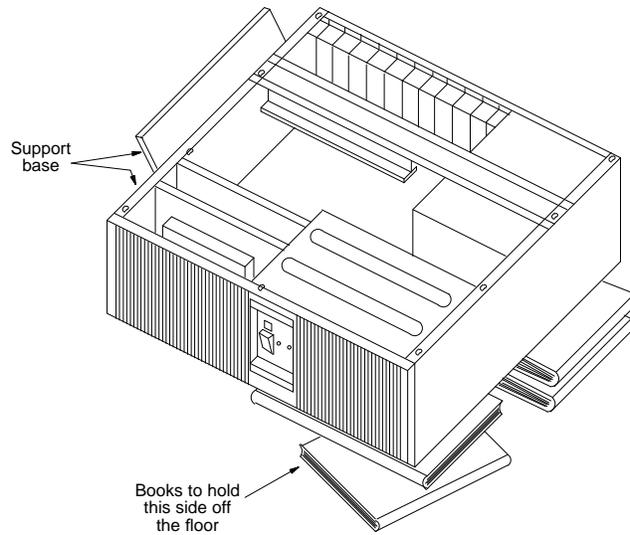

Figure 5-3. Working within the Card Cage—Floor Position
2. Turn the MAP/40 on its side, resting the side of the computer opposite from the support base on the two books. See Figure 5-3.
- If you do not have cables attached to the MAP/40 or currently have it sitting on a table, place the MAP/40 (tower configuration) on its side with the support base over the edge of the table. See Figure 5-3.